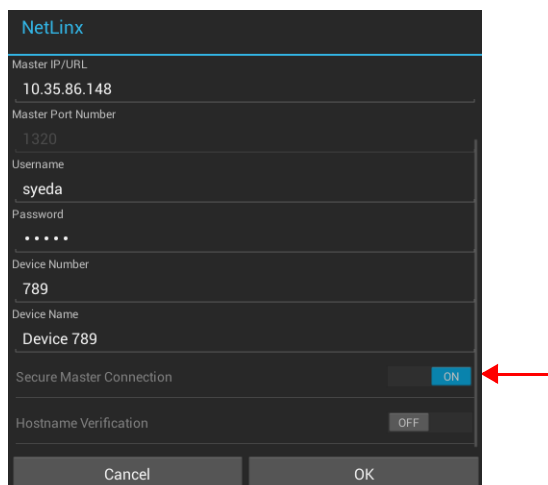

FIG. 66 NetLinx Options window - Secure Master Connections and Hostname Verification options enabled
2. Scroll to the bottom of the options list and toggle the *Secure Master Connection* option **ON** (FIG. 66):